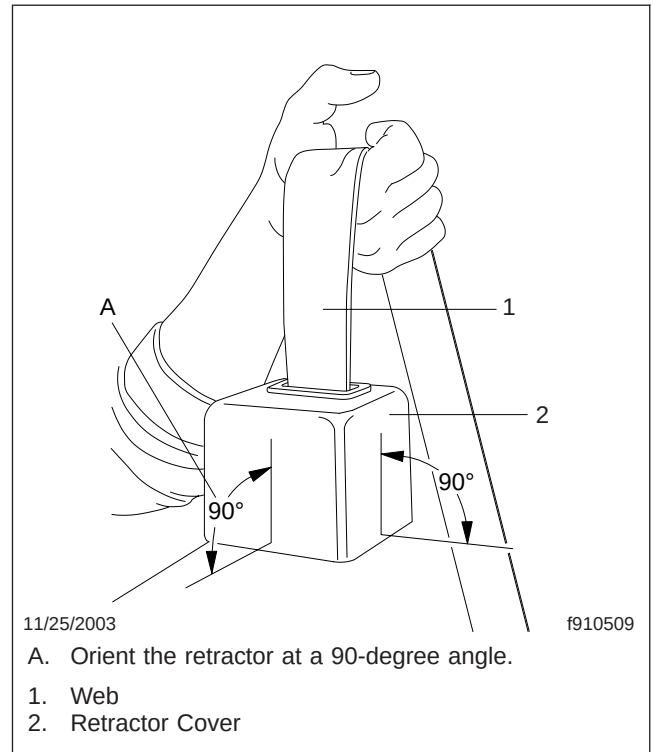

Fig. 2, Firmly Grasp the Webbing
3. Firmly grasp the web close to the retractor; see Fig. 2.